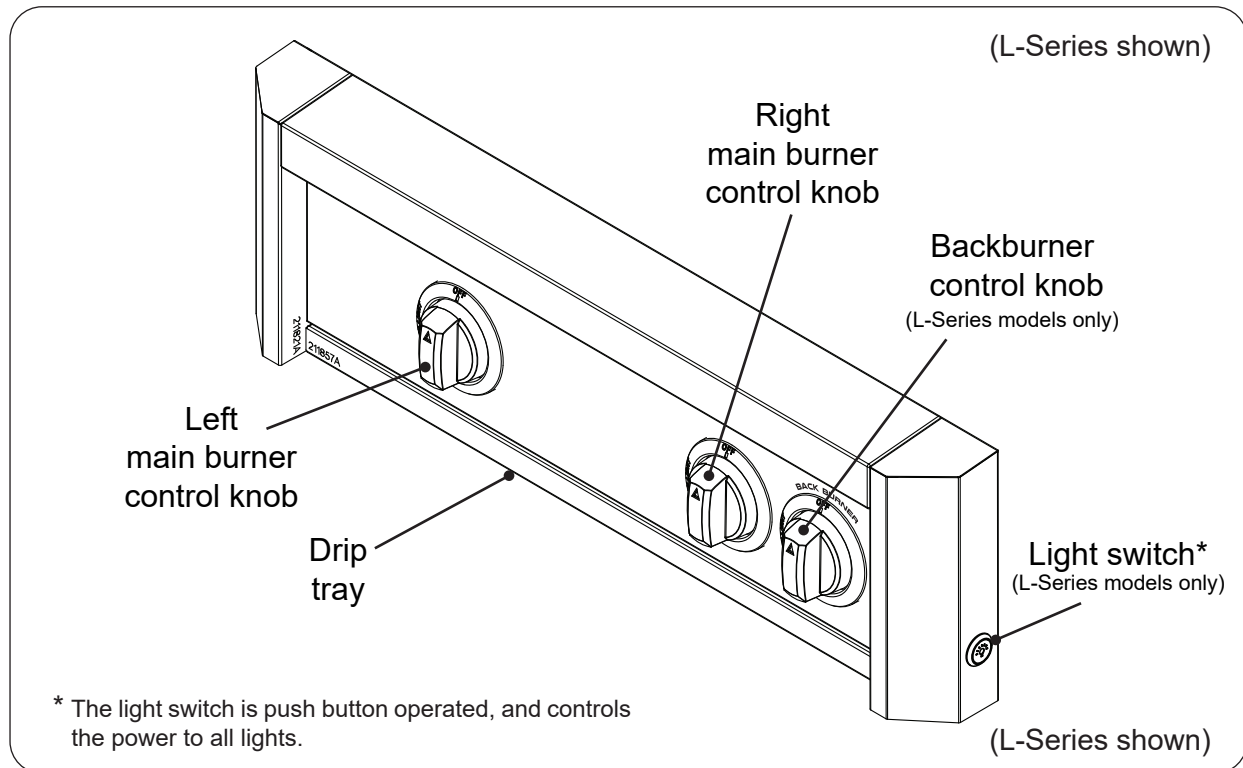

**Fig. 30-1** Electrical installation
- located at least **12"** below the bottom of the unit (see Fig. 30-1)
3. Connect the power cord to a **120VAC (15AMP minimum) GFCI GROUNDED three-wire receptacle** (see Fig. 30-1). The GFCI receptacle must be a WEATHER-PROOF IN-USE COVERED RECEPTACLE.